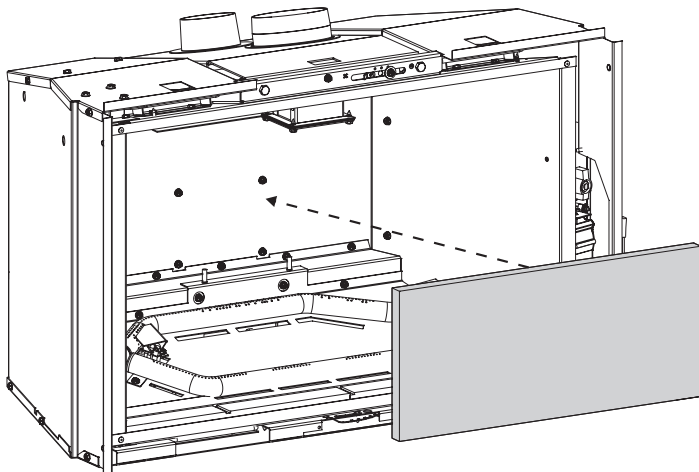

Figure 2
1. Place rear liner on the back of the firebox and hold with one hand. **See Figure 2.**